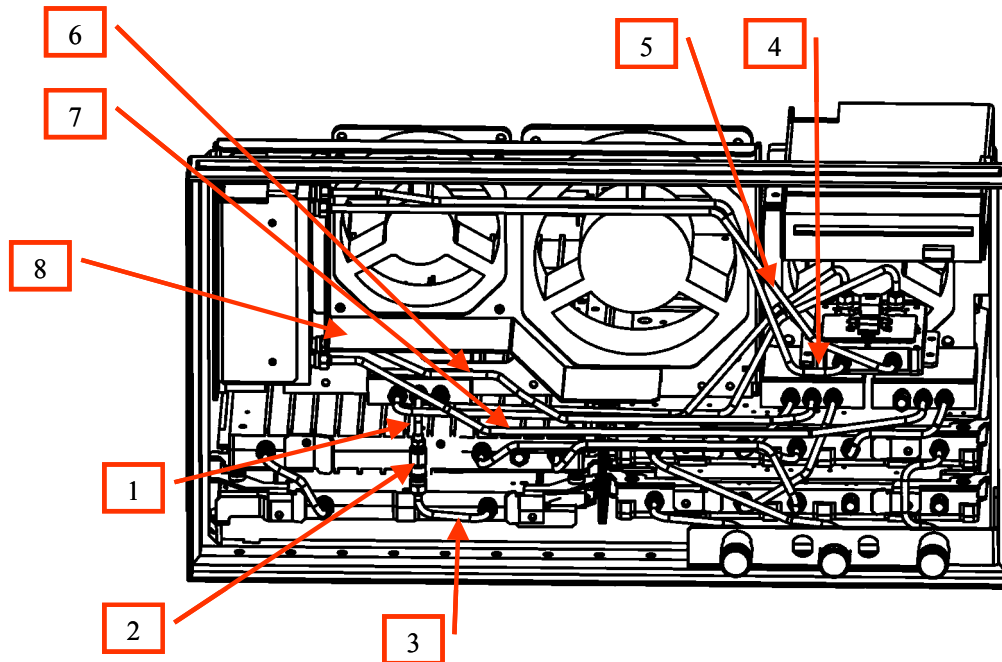

Figure 10 Front View (Semirigid Cables Opt. 313, 314 after modification)
12. Connect A4 and A7 ATT with E5070-61633 (No 4 in Figure10) semi-rigid cable
13. Connect A4 and A7 ATT with E5070-61635 (No 5 in Figure 10) semi-rigid cable
14. Connect ATT and A8 with E5070-61634 (No 6 in Figure 10) semi-rigid cable
15. Connect ATT and A8 with E5070-61636 (No 7 in Figure 10) semi-rigid cable
16. Screw E5070-01223 plate (No 8 in figure 10) instead of E5070-01222
15. Connect A3 and 0955-0301 (removed in step 8) with E5070-61675 (No 3 in Figure 10, see below) semi-rigid cable
16. Connect 0955-0301 and A8 (source side) with E5070-61676 (No 1 in Figure 10)
18. Connect A4 and A7 ATT with E5070-61633 (No 4 in Figure 10) semi-rigid cable
19. Connect A4 and A7 ATT with E5070-61635 (No 5 in Figure 10) semi-rigid cable
20. Connect ATT and A8 with E5070-61634 (No 6 in Figure 10) semi-rigid cable
21. Connect ATT and A8 with E5070-61636 (No 7 in Figure 10) semi-rigid cable
22. Screw E5070-01223 plate (No 8 in figure 10) instead of E5070-01222
Copy of Figure 10 in page 11